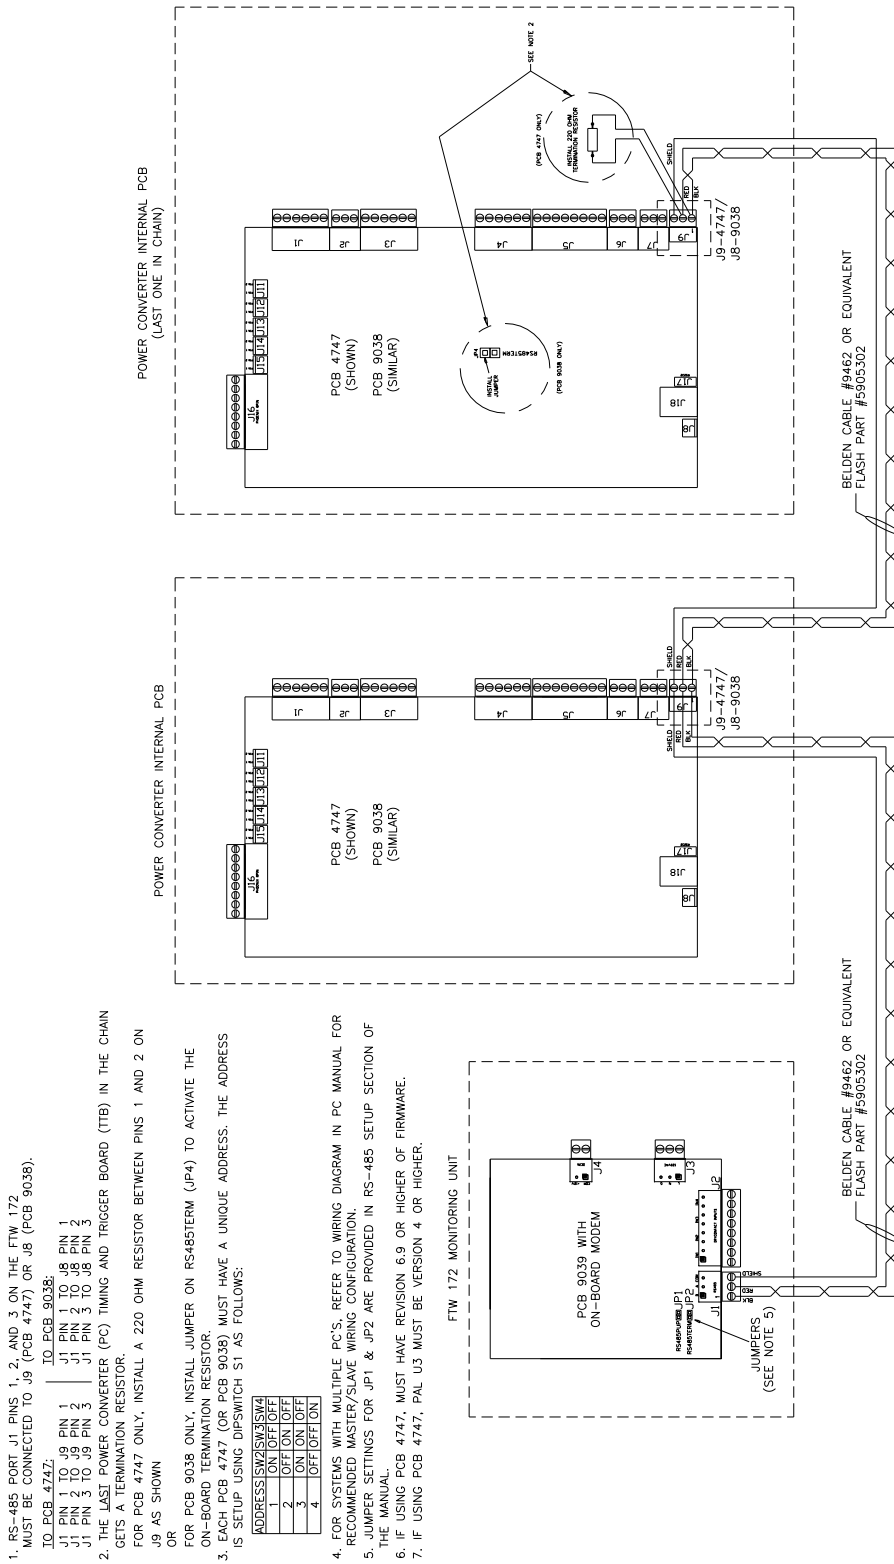
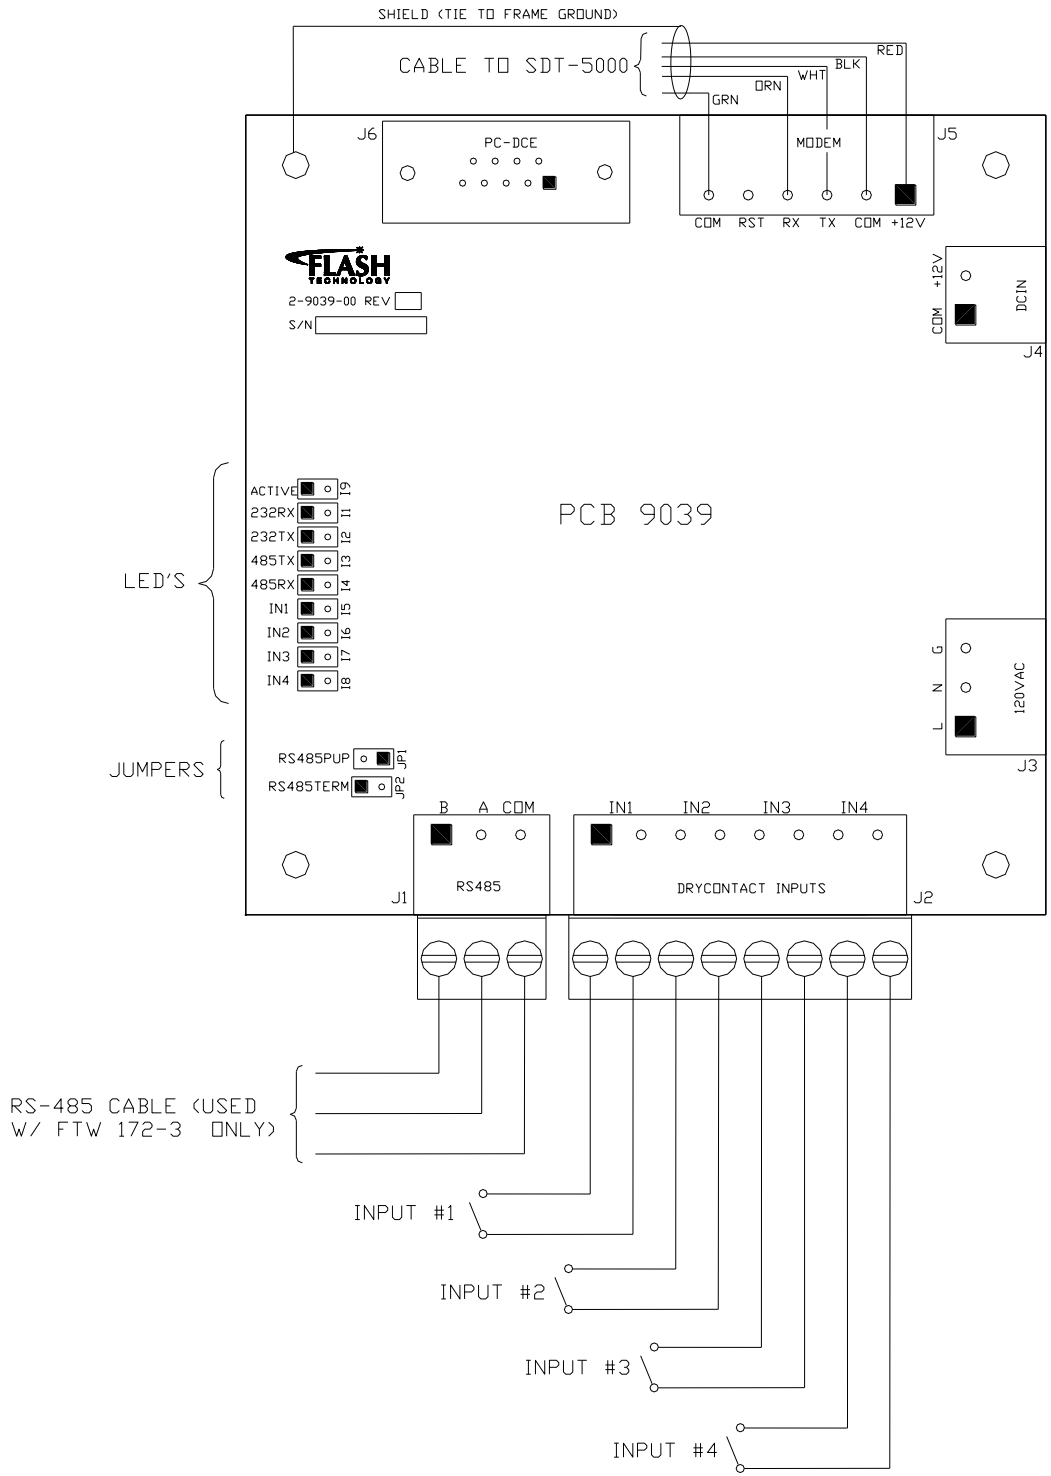

Figure 4-4 – RS-485 Installation
Figure 4-5 – PCB 9039 Layout and External Wiring
Connect the equipment to be monitored via dry contact inputs as shown in Figure 4-5. A label has been provided on the inside cover of the unit to record each input, up to four (4), that is connected. Figure 4-2 depicts the dry contact input label.
Connect the equipment to be monitored via RS-485 as shown in Figures 4-4. Figure 4-5 shows the layout of the PCB 9039 board including the location of jumpers JP1 and JP2. If the PCB 9039 Modem Interface has configurable headers and shunts at JP1 and JP2, refer to Table 4-1 for the proper configuration of these jumpers. If the PCB 9039 has soldered-in wires at JP1 and JP2, no configuration of these jumpers is necessary.
Table 4-3 shown below describes the LED's that are present on the PCB 9039. The location of the LED's is shown in Figure 4-5.
2. Re-apply power to the equipment and observe the “Active” LED shown in Figure 4-5. The green LED should first blink when the unit is first powered on and illuminate solid when communicating with Flash Technology’s monitoring network. This process may take several minutes.